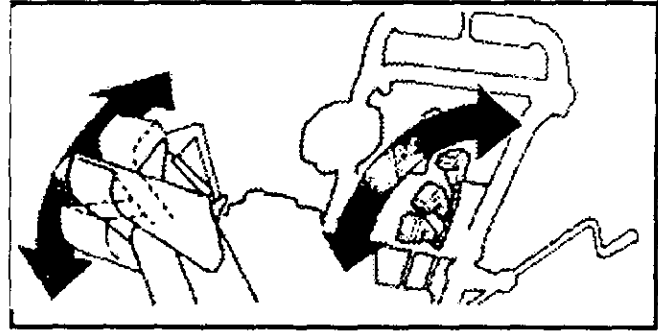

FIG. 2
- Adjust snow chute deflector to set the **distance**. Push remote lever forward to discharge snow high and far. Pull remote lever back to discharge snow down. (FIG. 2).